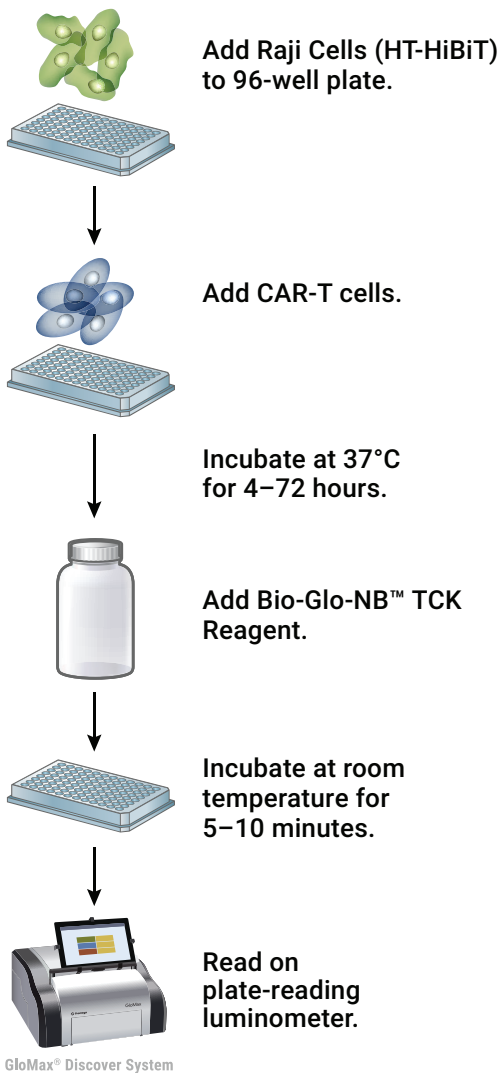

Figure 12. Schematic protocol for CAR-T assay using Raji Cells (HT-HiBiT).
This procedure illustrates the use of Raji Cells (HT-HiBiT) to test CAR-T effector cells against a reference sample in a single cytotoxicity assay (Figure 12). Each test and reference CAR-T is assayed in triplicate, in an eight-point effector-to-target (E:T) ratio dilution series, in a single 96-well assay plate using the inner 60 wells. Other experimental and plate layouts are possible but may require further optimization.
3. Using a multichannel pipette, add 40 μ l of the appropriate CAR-T dilution to wells B3–G10 of the assay plates according to the plate layout in Figure 12. Add 40 μ l of CAR-T assay buffer to MR and SR control wells (B2–G2 and B11–G11, respectively).